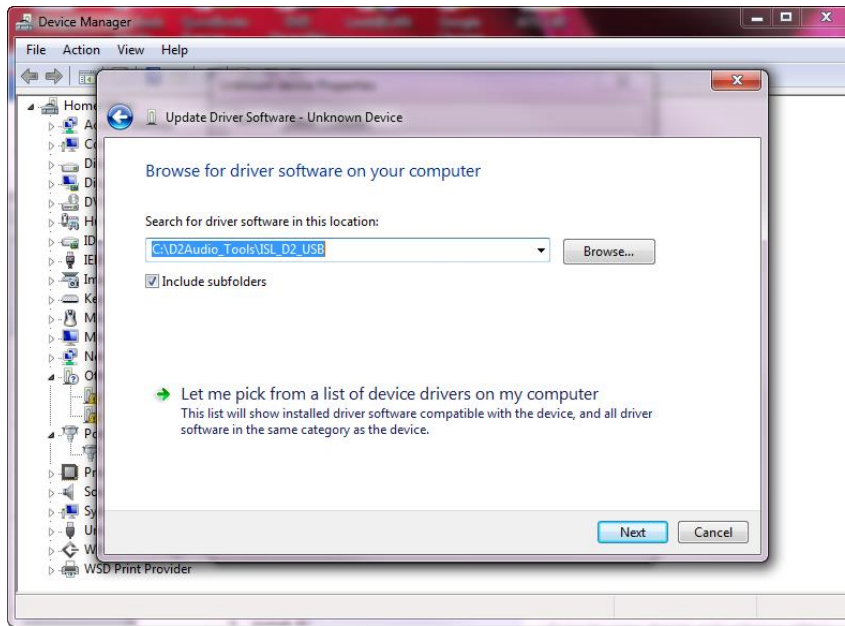

Figure B6: Driver Browse page
14. This location will be placed in the “Driver location” as shown in Figure B6